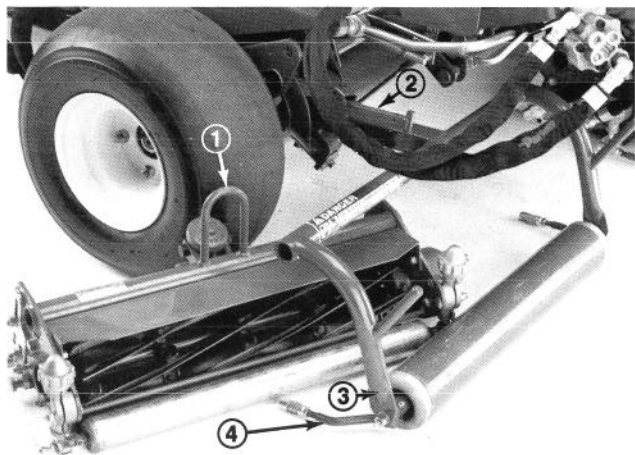

Figure 6
2. Slide the cutting units under the pull frames and position the hoop on the top of cutting units over the lift arms (Fig. 6).